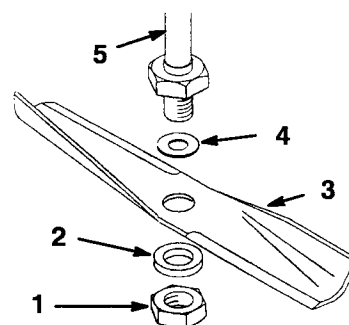

Figure 31
3. Hold the blade end using a rag or thickly padded glove. Remove the bolt, flat washer, and blade (Fig. 31). A block of wood may be wedged between the blade and the mower to lock the blade when you are removing the bolt.